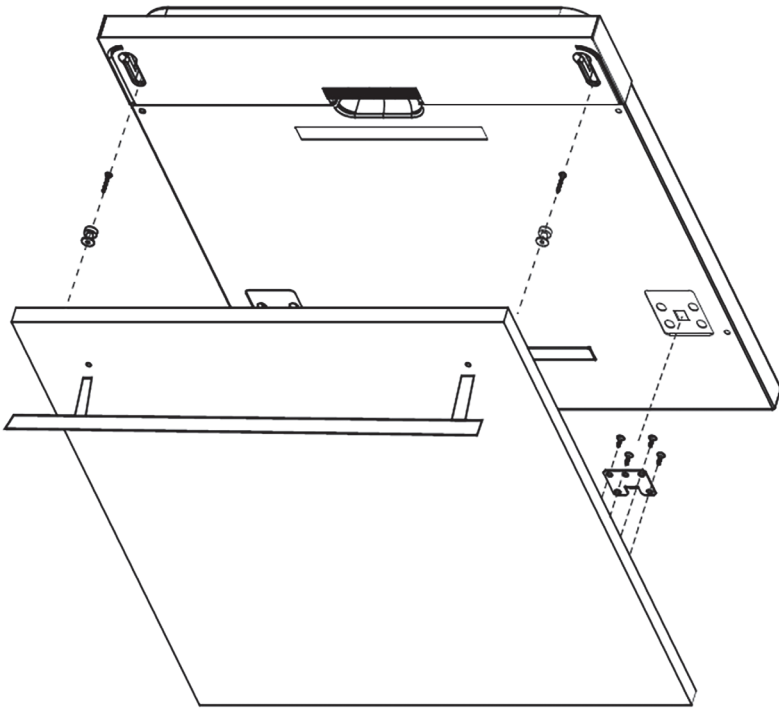
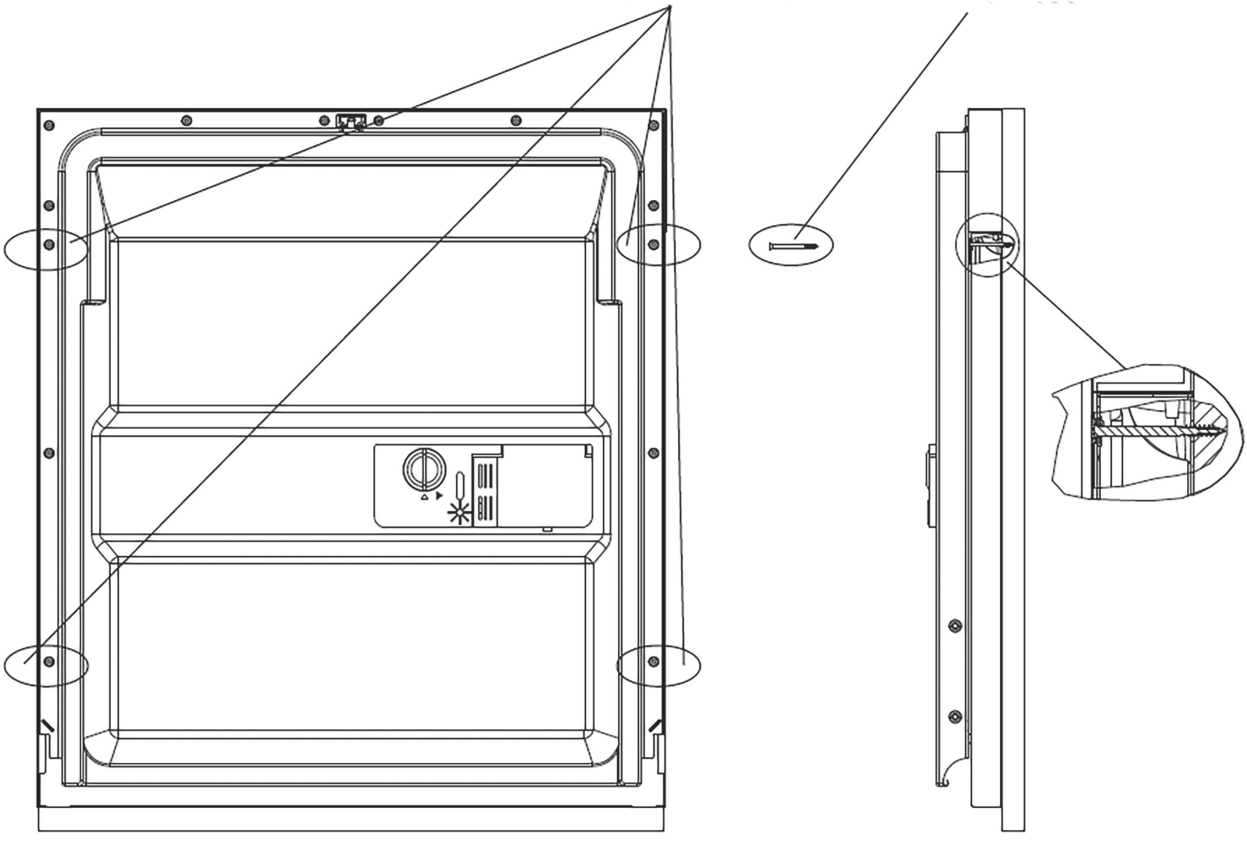

Figure 4a
Figure 4b
2. Install the hook on the aesthetic wooden panel and put the hook into the slot of the outer door of dishwasher (see figure 4a). After positioning of the panel, fix the panel onto the outer door by screws and bolts (See figure 4b).